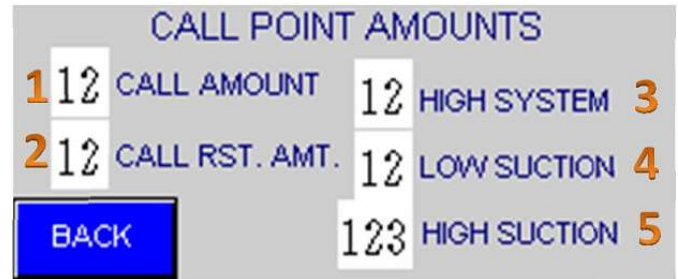

Figure 17. Call Points Menu Screen
2. **Pressure Setting Menu.** Displays the pressure settings shown in the call point menu, Figure 17.